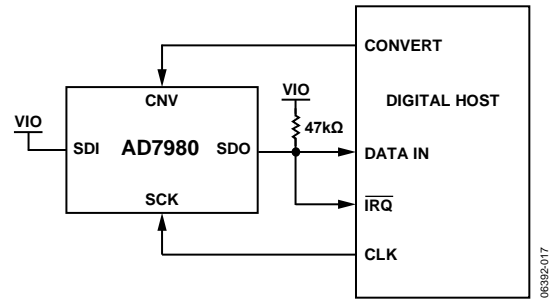
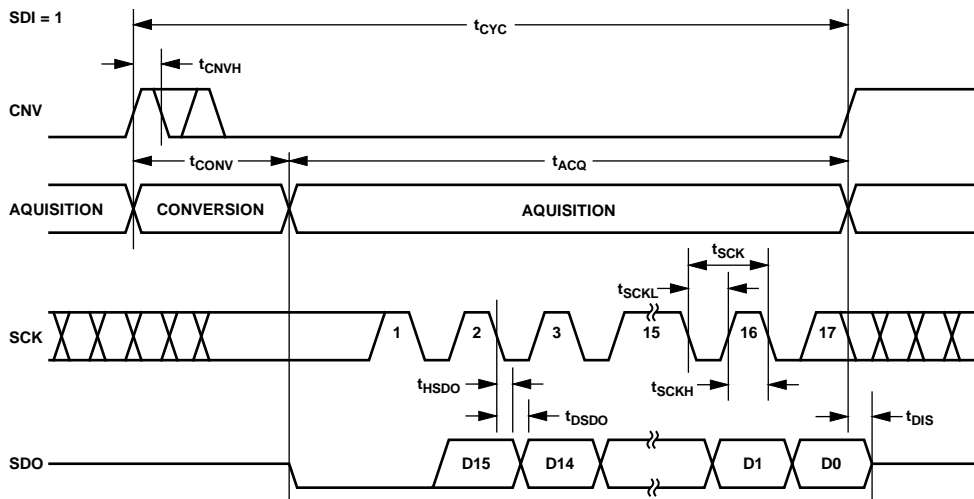
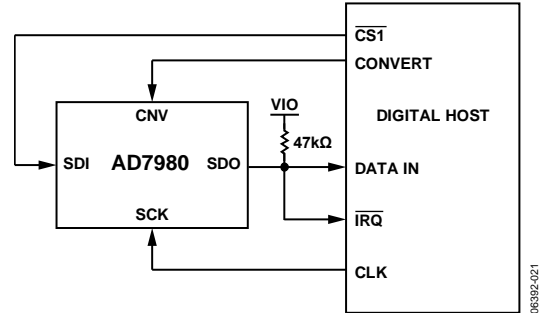
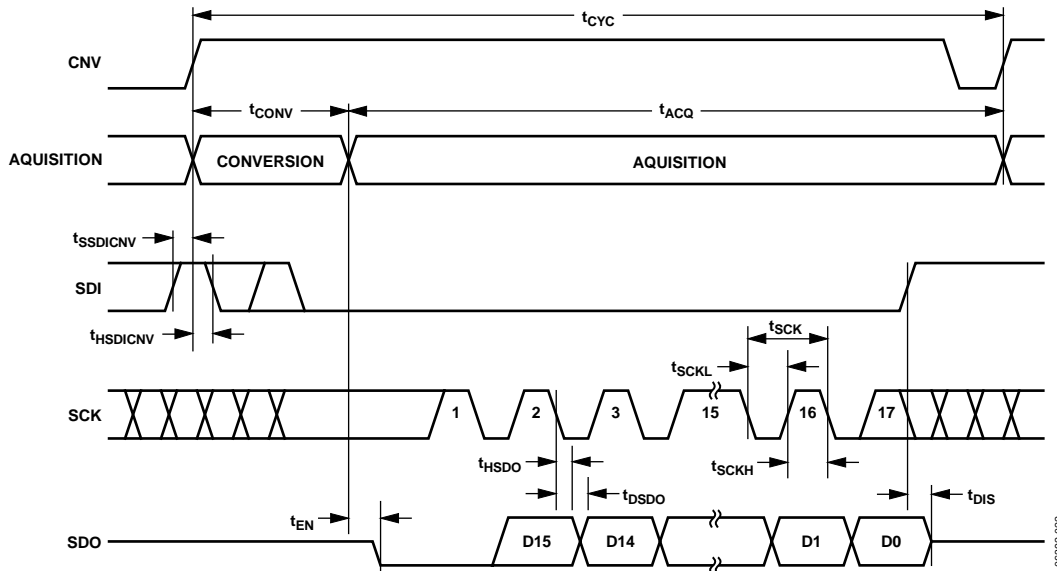

Figure 33. 3-Wire \overline{CS} Mode with Busy Indicator Connection Diagram (SDI High)
Figure 34. 3-Wire \overline{CS} Mode with Busy Indicator Serial Interface Timing (SDI High)
Figure 37. 4-Wire $\overline{\text{CS}}$ Mode with Busy Indicator Connection Diagram
Figure 38. 4-Wire $\overline{\text{CS}}$ Mode with Busy Indicator Serial Interface Timing
- In the $\overline{\text{CS}}$ mode if CNV or SDI is low when the ADC conversion ends (see Figure 34 and Figure 38).
The connection diagram is shown in Figure 33, and the corresponding timing is given in Figure 34.
The connection diagram is shown in Figure 37, and the corresponding timing is given in Figure 38.